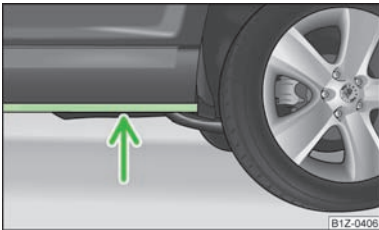

Fig. 131
- Therefore determine the depth of the water before driving through bodies of water. The water level must fit around the strut on the side member as a maximum » Fig. 131;